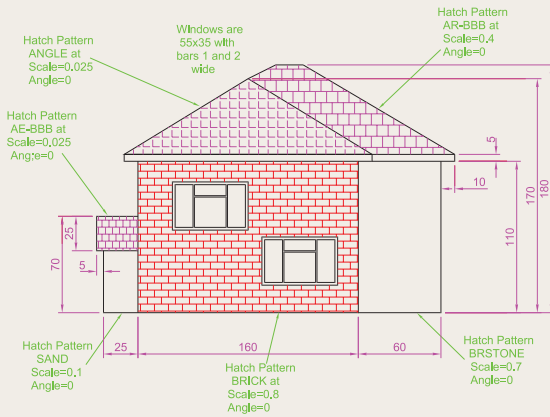

Fig. 8.24 Exercise 5
- Working to the notes given with the drawing shown in Fig. 8.24, construct the end view of a house as shown. Use your own discretion about sizes for the parts of the drawing.